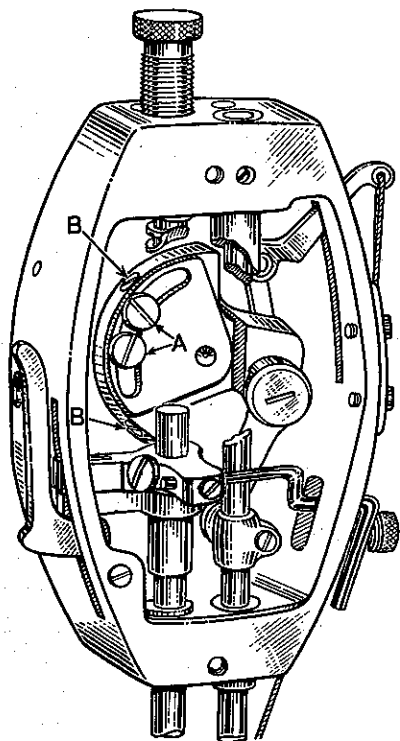

Fig. 17
Loosen the two screws holding the counterweight to the segment plate (A, Fig. 17) and the two screws (B) holding the counterweight to the main shaft. Hold the handwheel and turn the counterweight in a clockwise direction to retard the feed, and in a counterclockwise direction to advance the feed. Be sure to re-tighten all four screws securely, making certain that the counterweight does not slip. Any time the feed timing is changed, it is necessary to retime the hook.